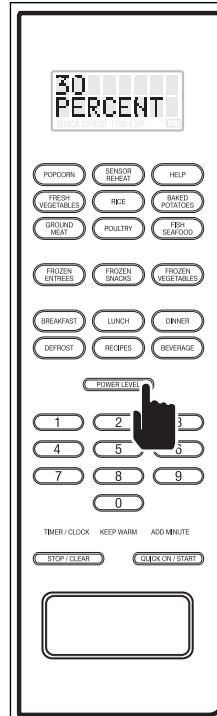

Figure 3-43.
2. Press the POWER LEVEL key eight times, until the display shows "30 PERCENT" (See Figure 3-43).